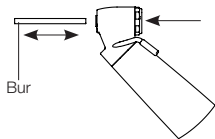
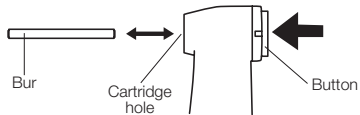

Fig. 3
Fig. 4
2.3.1 Insert the bur into the hole of the cartridge, as shown in Fig. 3 or Fig. 4.